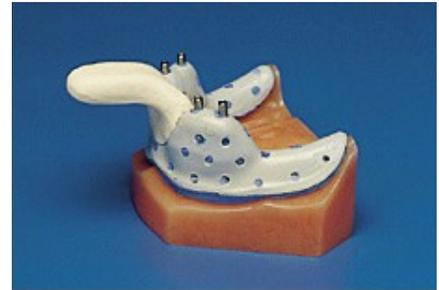

Figure 3
5. **While an assistant develops the radiograph: (Fig. 3)**
6. **Have an assistant paint the tray with adhesive. Place wax over the hole and allow it to dry (Fig. 3).**
7. **Syringe medium-heavy body impression material around the impression coping, and then fill the tray with the same material (Fig. 3).**